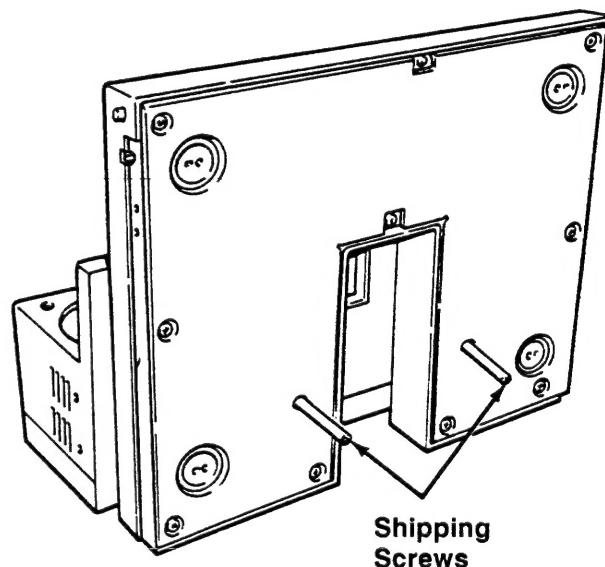

Figure 2-2B
1. Remove both red Shipping Screws from the bottom of the machine (Figure 2-2B).